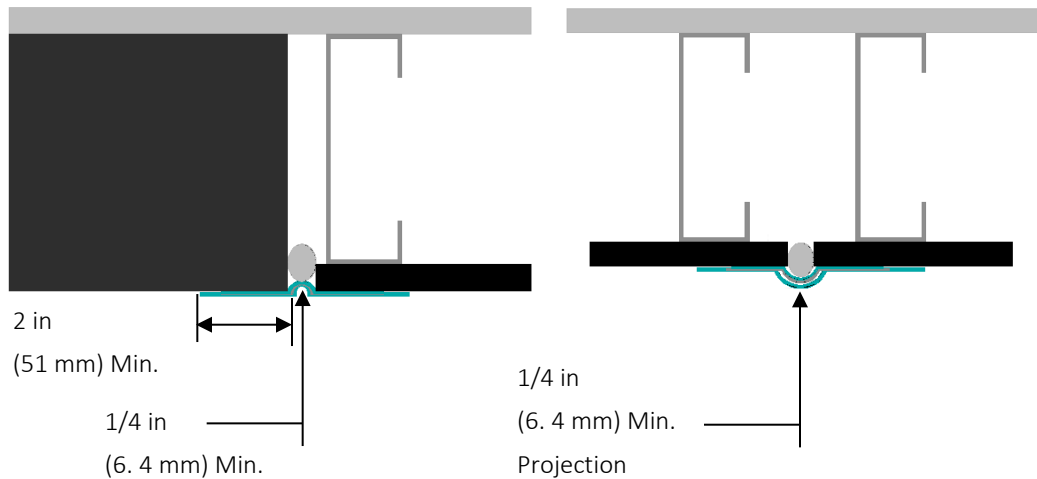

Fig. 14
- The width of the AquaFlash Mesh must overlap each side of the joint a minimum of 2 in (51 mm) - Figure 14.